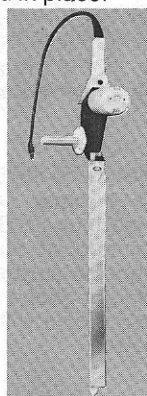

Figure 2
2. To obtain trouble free trimming, it is necessary to remove gum that collects on the blades. This is best done by keeping trimmer in storage sheath filled with a mixture of 1/2 kerosene and 1/2 machine oil, after each cutting. (Fig. 2) Blades must be clean before they can be adjusted.